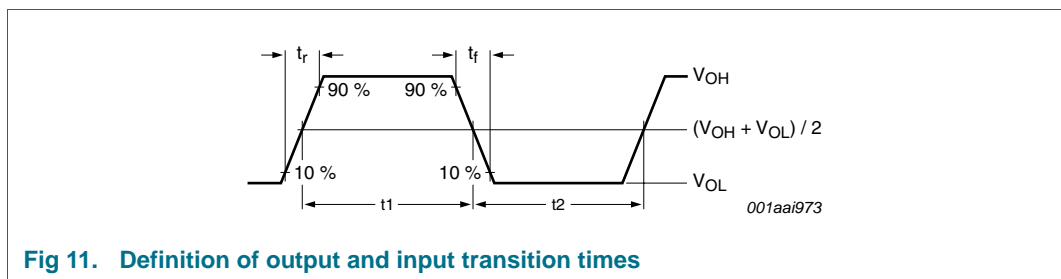

Fig 11. Definition of output and input transition times
- [5] The transition time and the duty factor definitions are shown in Figure 11 on page 19; $\delta = t1 / (t1 + t2)$.